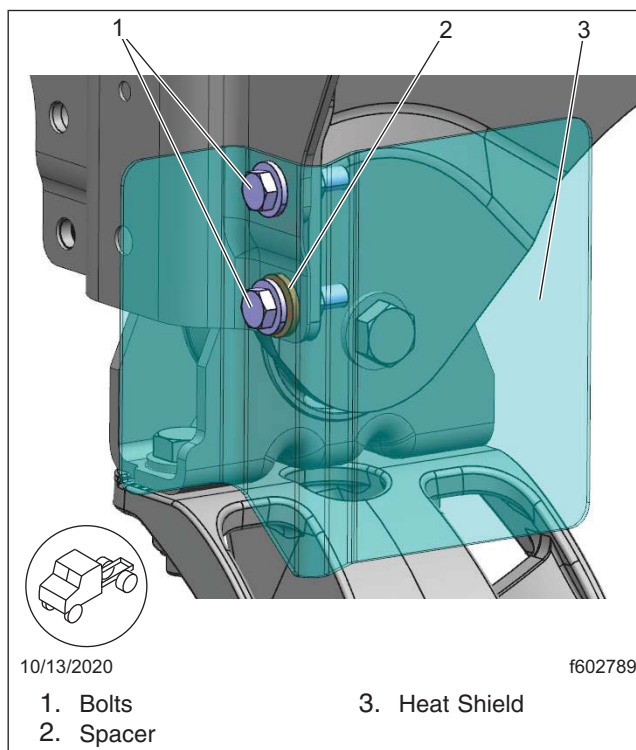

Fig. 1, New Cascadia Heat Shield Installation
4. Insert the lower bolt and washer on the new heat shield, then position the spacer between the heat shield and the front wall and thread the lower bolt to attach the heat shield. See Fig. 1.